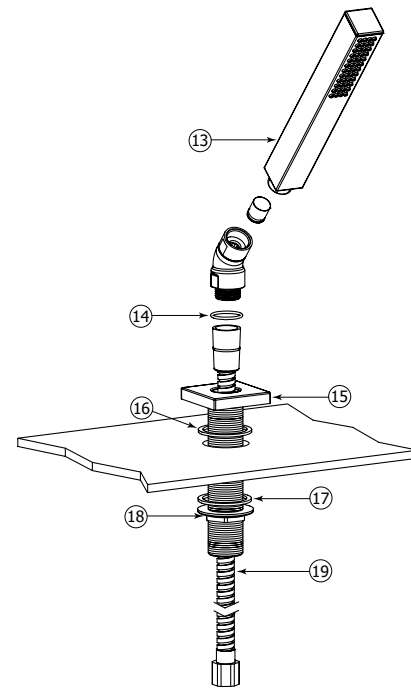

Fig.5
Insert the one-piece base (decorative flange, threaded rod (15)) and o-ring (16) into the deckmount hole. Secure with supplied tie-down kit (17 and 18) (see Fig.5).
et la rondelle en caoutchouc (17) (voir Fig.5).